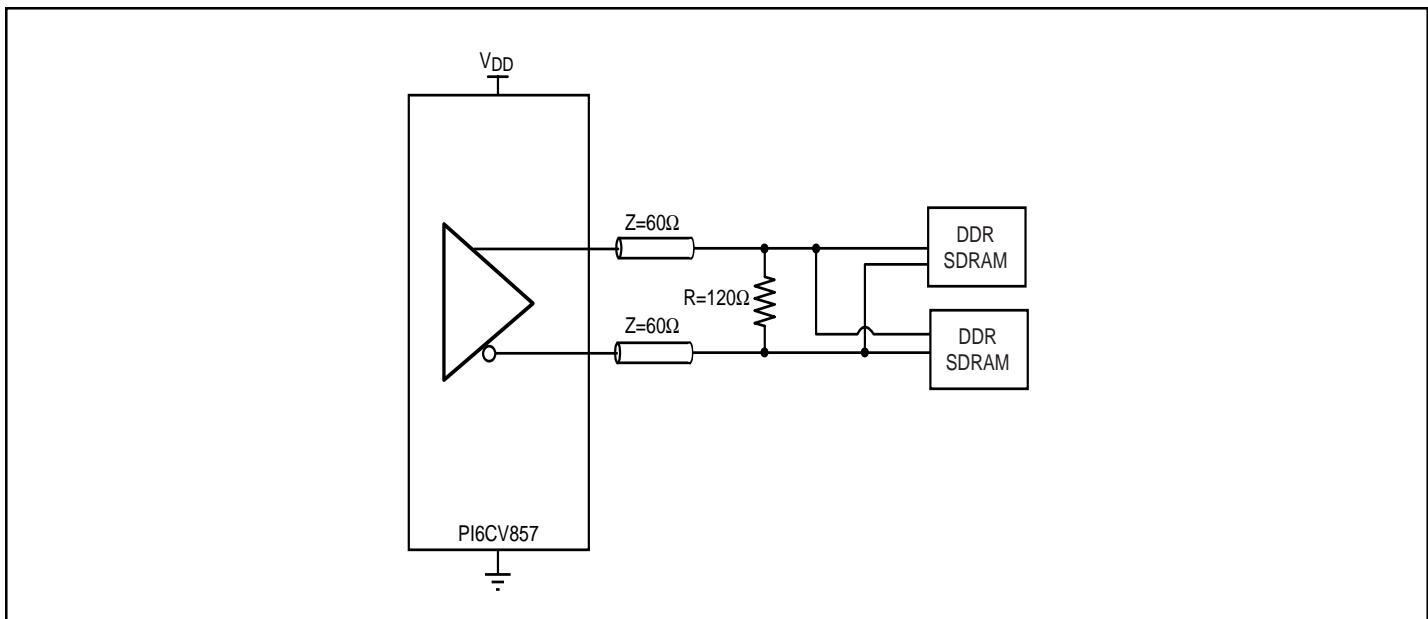

Figure 1. IBIS Model Output Load
Switching characteristics over recommended operating free-air temperature range (unless otherwise noted)(See Figure 1 & 2)
2. The slew rate is determined from the IBIS model with test load shown in Figure1.